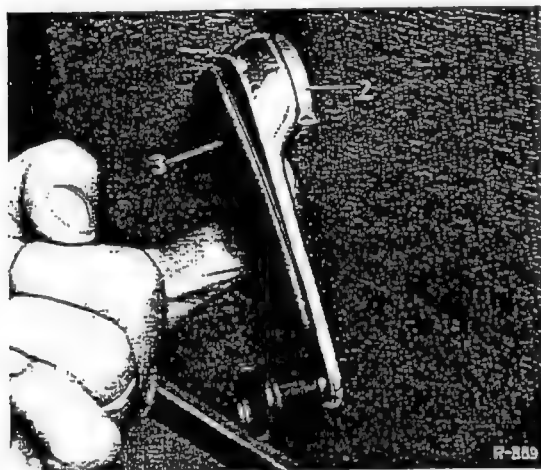

Fig. 72-4/1
1. Press the padding (3) of the window regulator handle out from behind and pull it off upward (Fig. 72-4/1).